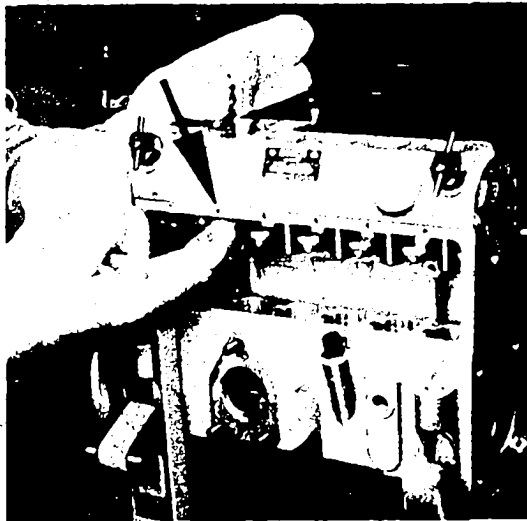

Fig 29 Lift out the pump barrel on size A.
11. On pumps type PE..A..B, the pump barrels have a groove in which a locking pin engages. They can easily be lifted off upwards (Fig. 29). Pump barrels on pumps type PE..B and PE..Z have a closed locking groove with bore hole and are prevented from turning by a